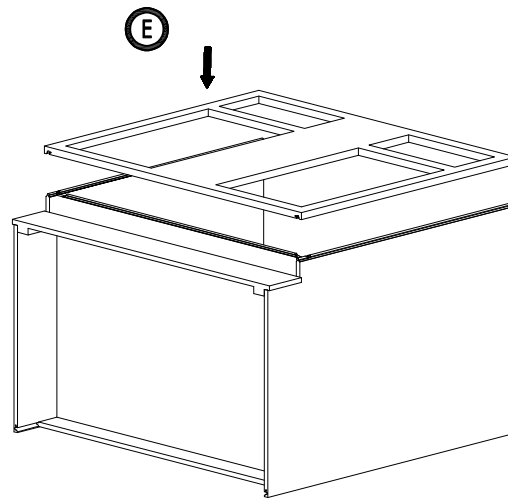

Figure 4
4. Install the frame: Insert the frame (F) into the groove of the side panel (A), bottom (C). Press down until they click into place. (Figure4)